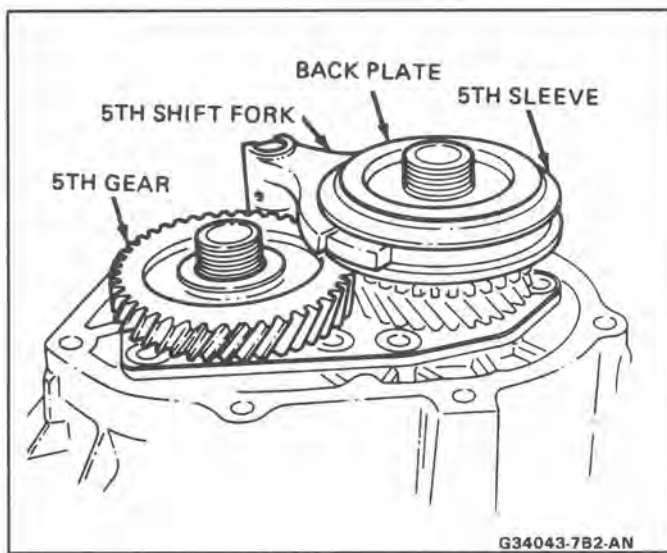

Fig. 45 Fifth Gear and Shift Fork
21. Install the 5th gear to the input shaft. Install the needle bearing, 5th gear, blocker ring, hub/sleeve assembly with shift fork in its groove and back plate on the output shaft. Align shift fork on shift shaft and install a new double roll pin (Fig. 45).